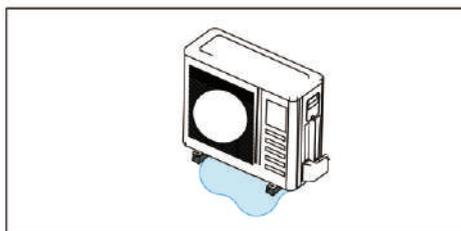

Fig 5.3.3. Avoid Defrost Water Ice Hazard
- Carefully consider how to manage defrost water disposal to prevent ice from blocking walkways or creating a safety hazard near the outdoor unit as illustrated in "Fig 5.3.3. Avoid Defrost Water Ice Hazard".